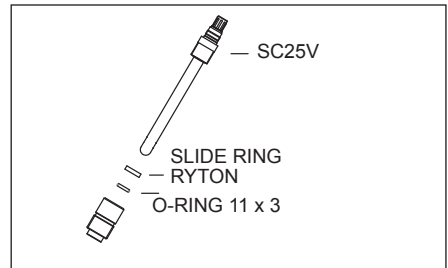

Figure 3
- For mounting in Yokogawa fittings, a PG13.5 to M25 adapter is available in different materials (see fig 3) more information in chapter 7.